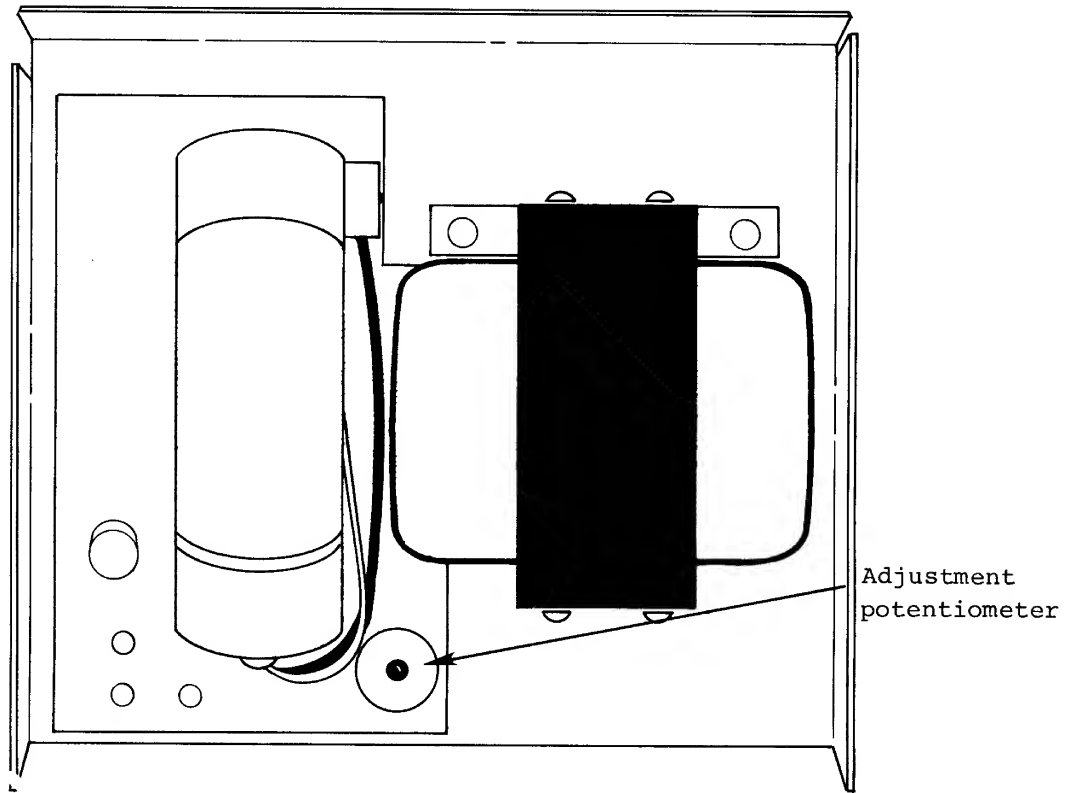

Figure 3: Power Supply Adjustments
2. Adjust the power supply potentiometer for  $+5.0 \pm .1$  VDC (see Figure 3).